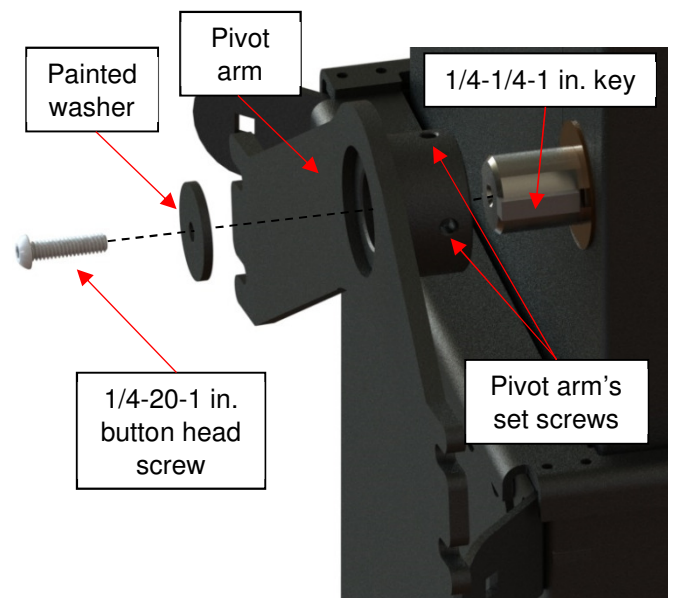

Figure 72
- 3) Put the painted washer on and screw the 1/4-20-1 in. button head screw with the provided 5/32 in. hex key. (Figure 72)
- 4) Tighten both pivot arm's 5/16-18-5/16 in. set screws with the provided 5/32 in. hex key. (Figure 72)